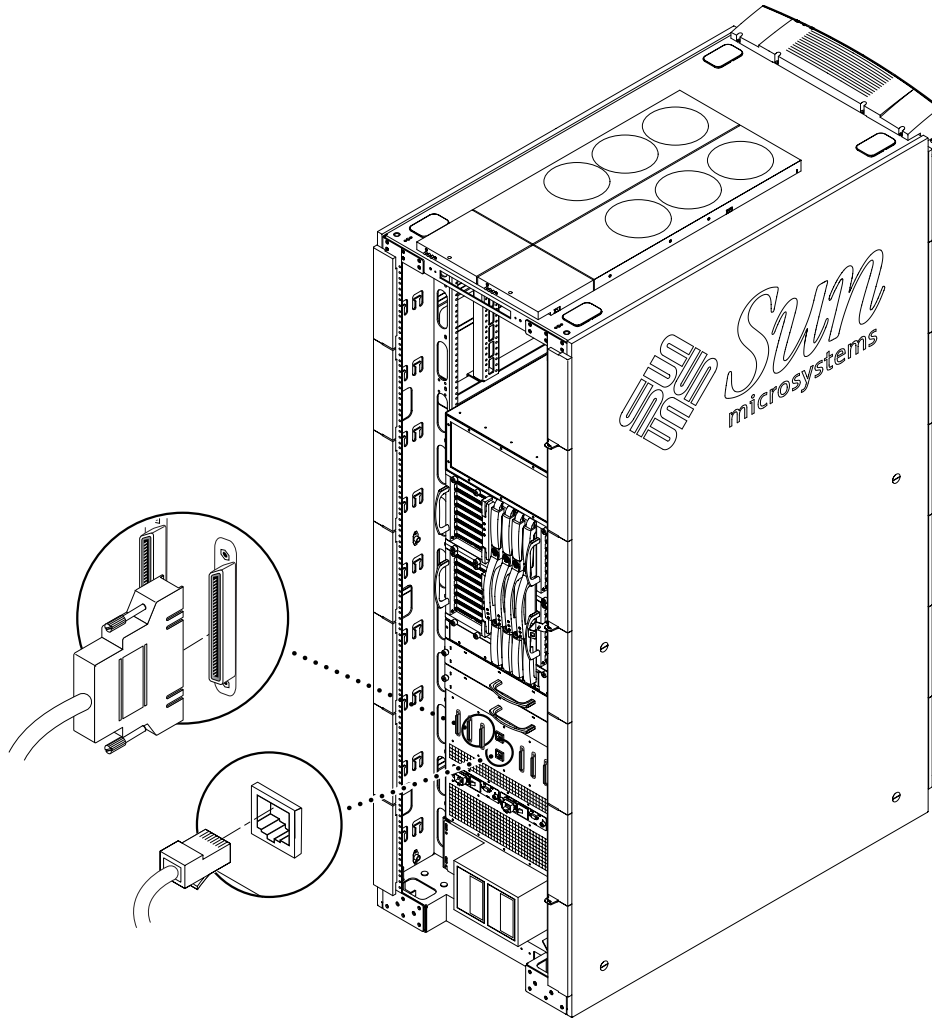

FIGURE 2-11 Primary TTYa Serial Port and Primary Ethernet Connections on the Patch Panel
1. **Connect one end of each I/O cable to the appropriate card in the I/O assembly** (FIGURE 2-11).
1. Connect one end of the serial cable (TTYa or Null modem) to the primary serial port on the patch panel (FIGURE 2-11).
1. Connect one end of the shielded Category-5 Ethernet cable to the primary RJ-45 Ethernet port on the patch panel (FIGURE 2-11).